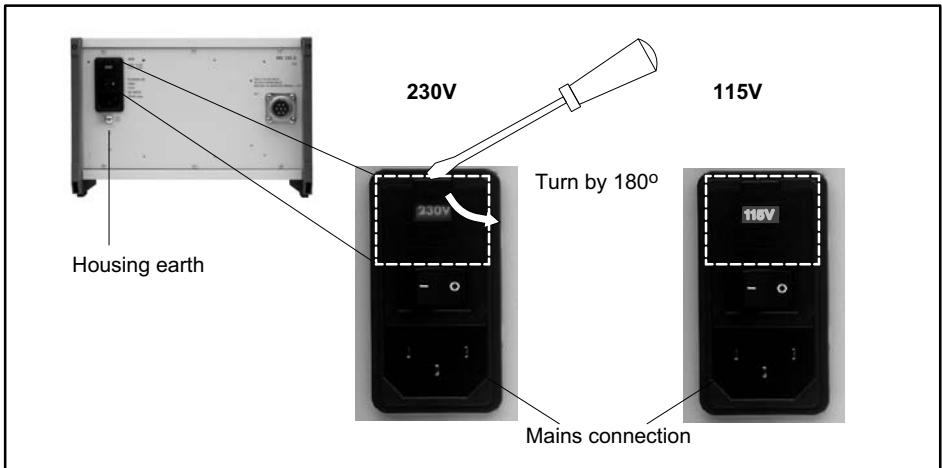

Fig. 3.1 Switching the mains voltage
- Be sure to have selected the appropriate mains voltage (see Fig. 3.1).